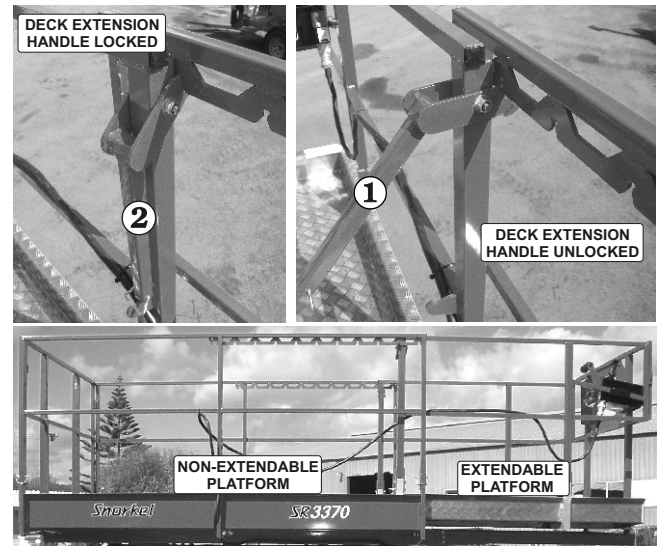

Figure 8.26
The MULTI-position extendible platform (see Figure 8.26) can be securely locked into different positions. To move it from one position to the other do the following:
2. Lift up the deck extension handles (one for each side of the deck) **1** to unlock the deck (see Figure 8.26).
4. Lower the deck extension handles and allow the lock **2** to locate (see Figure 8.26).